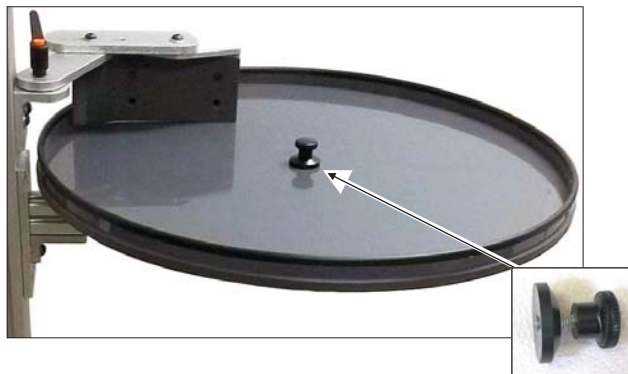

Fig. 6
- b. Ensure the tabletop is seated evenly atop the drive hub, as shown in Fig. 6.
5. Install the diverter arm assembly to the support column, as shown in Fig. 6 above. Use the 3/16" hex key. Leave upper arm loose for now, until final adjustment after conveyor is mounted (Section C, pg. 12).